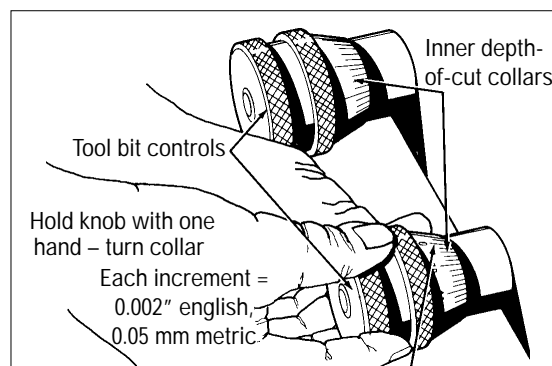

Figure 23 - Tool bit controls
7. Turn each tool bit control (the outer knurled knobs, figure 23) clockwise until the tool bits just contact the rotor surfaces.